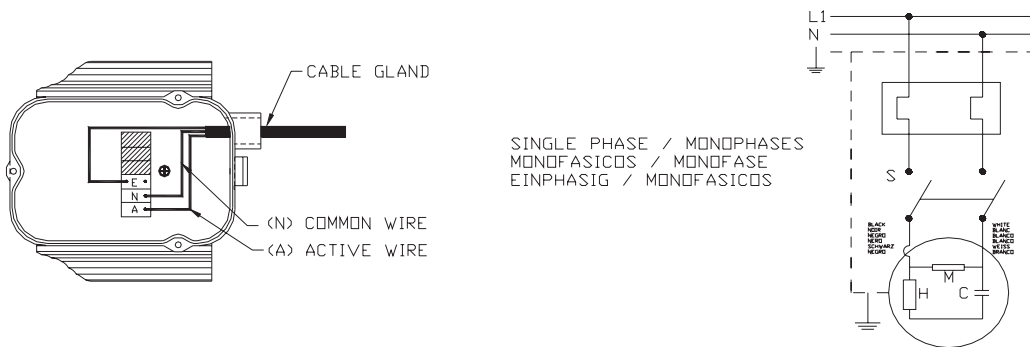

Fig. 1
- All pumps are fitted with a foot with two holes in it to anchor it to the ground. (Fig 1).